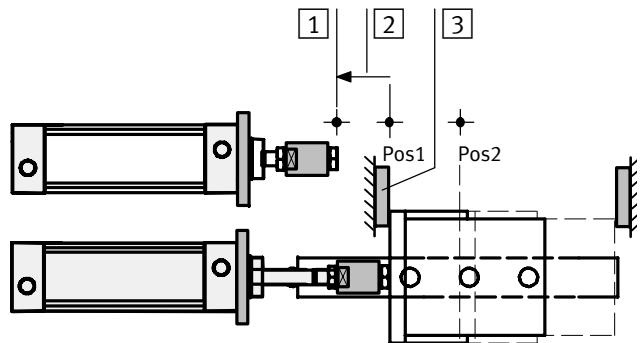

Fig. 4/1: Reference points for incremental displacement encoders
- Nominal stroke length (L) of the drive (see type designation on the type plate, e.g. type DNCI-32-**300**-P-A has a nominal stroke length of 300 mm).
- Offset axis zero point (r) – offset between the end position 1 and the axis zero point (see Fig. 4/1).